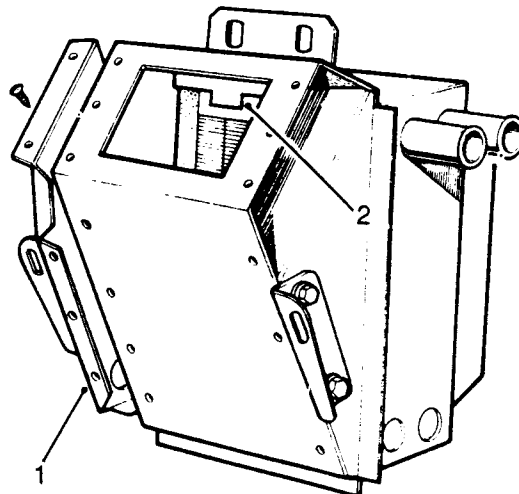

Fig N3.16
- (1) Refer to Fig N3.16. Remove the fixings and withdraw the detachable side panel (1).
- (2) Withdraw the radiator and pipes assembly. (2)